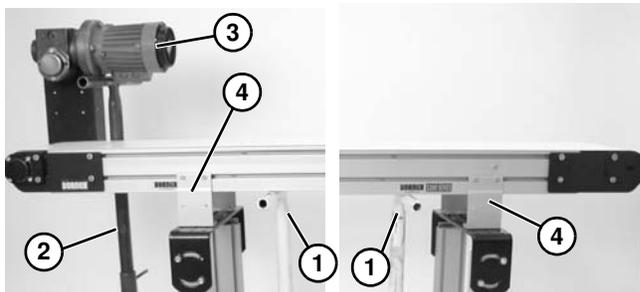

Figure 56
- Place temporary support stands (**Figure 56, item 1**) at both ends of the conveyor. Place an additional support stand (**Figure 56, item 2**) under the drive motor (**Figure 56, item 3**), if equipped. See WARNING.
- Remove mounting brackets (**Figure 56, item 4**) from one side of conveyor. (Reverse steps 2 & 3 of “Mounting Brackets” section on page 21).